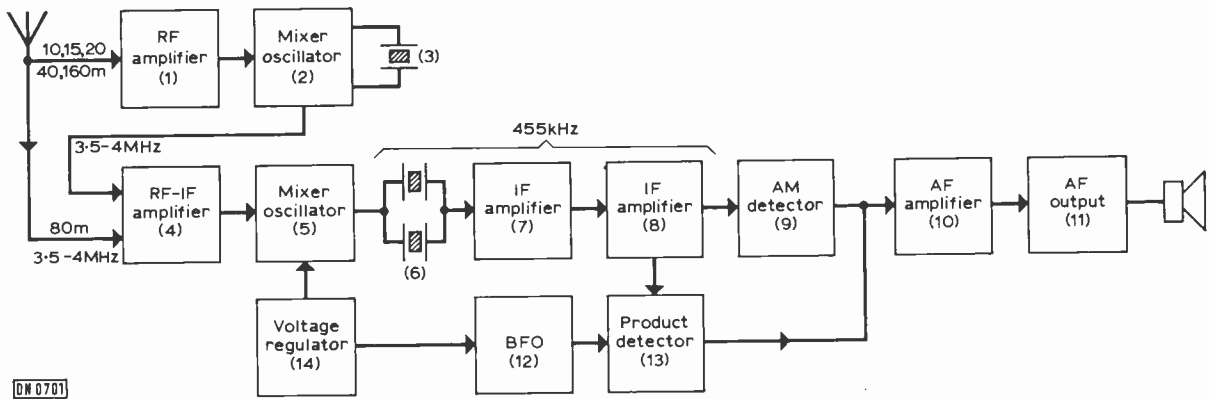

Fig. 1: Block diagram to illustrate the function of each stage in a double conversion communications receiver.
Those who may not be familiar with the method of operation of this type of receiver should find the block diagram of Fig. 1 helpful in conjunction with the description that follows.
Referring to Fig. 1 stage (1) is an r.f. amplifier followed by the first mixer (2) both working on all bands except 80m. Each Amateur band, except 80m, employs a crystal (3) chosen so that the output of the mixer (2) falls in the range 3.5 to 4MHz whatever the band in use. This tuning range 3.5 to 4MHz is covered by the tunable r.f./i.f. amplifier (4) and is followed by the second mixer and tunable oscillator (5) forming the tunable i.f. part of the receiver on all bands, except 80m. On 80m signals fall in the range 3.5 to 4MHz and are switched to stage (4).